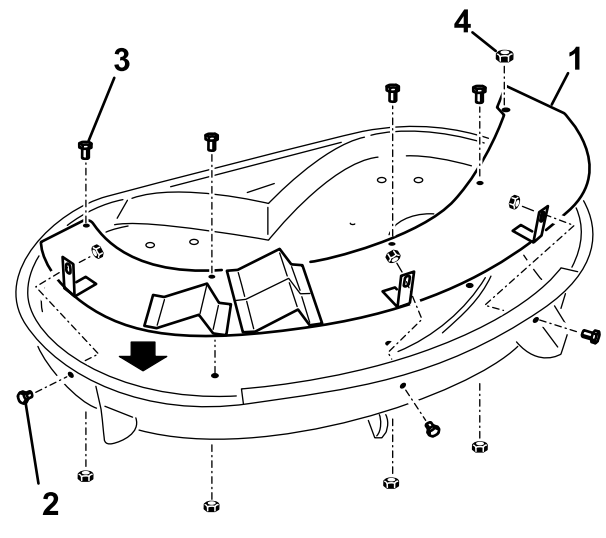

Figure 2
1. Install the upper baffle, tabs pointed into the mower as shown in Figure 2. Ensure that the threads of the discharge chute rod come through the baffle hole.
2. Install the locknut removed previously over the threads of the discharge chute retaining rod to secure the baffle to the mower (Figure 2).
3. Install three bolts (5/16 x 5/8 inch) and three flange nuts (5/16 inch) through the side of the mower at each tab as shown in Figure 2. Install the fasteners with the nuts on the inside.
4. Install four bolts (1/4 x 5/8 inch) in the baffle and up through the top of the mower and secure it with four locknuts (1/4 inch) as shown in Figure 2.